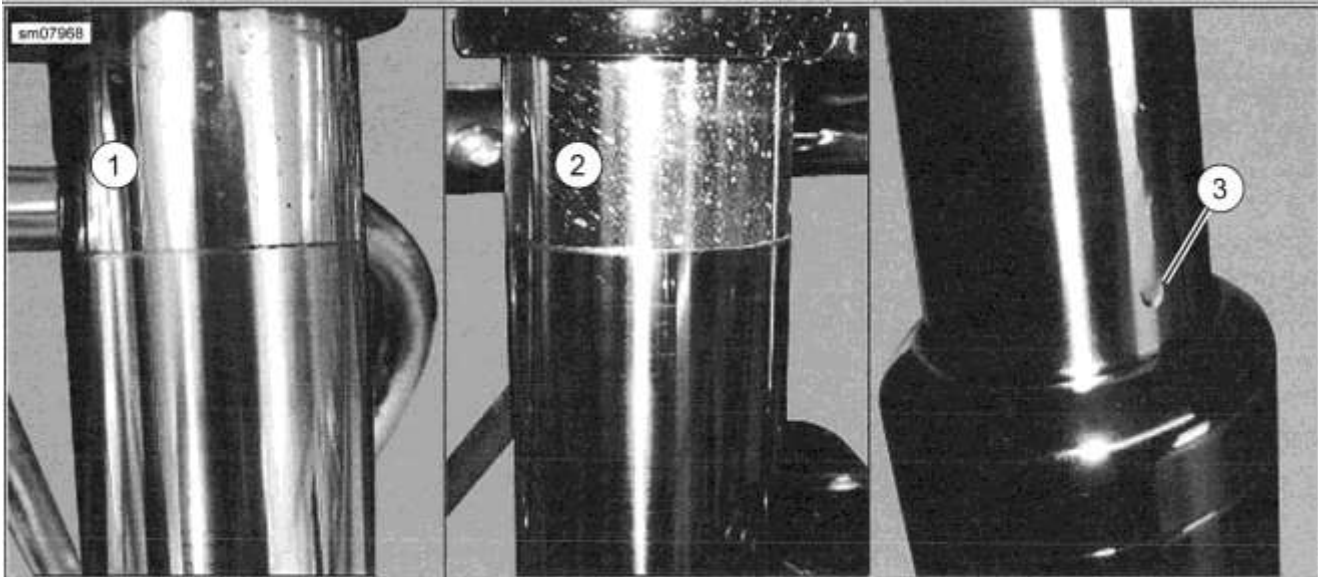

Figure 3-63. Front Forks
4. See Figure 3-63. Check fork slider tube for oil.
- b. If an oil run or drip (3) is present, perform procedure two or three more times to confirm oil leak.